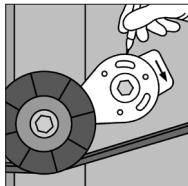

Fig. 2
1. The directional arrow at the bottom of the tensioner housing must point in the direction of the belt(s) (Figure 2). If not, it is necessary to disassemble the tensioner and reverse the spring. See steps 2 and 3. Otherwise, proceed to step 4.
8. The tensioner spring is not yet under tension. Put the idler in light contact with the belt(s) and rotate the tensioner base clockwise if the arrow points to “CW” or counterclockwise if the arrow points to “CCW” until you feel light spring pressure. Mark a line on both the housing and base of the tensioner. This will be reference point 0° for establishing tensioner force and degrees of rotation. Figure 2.